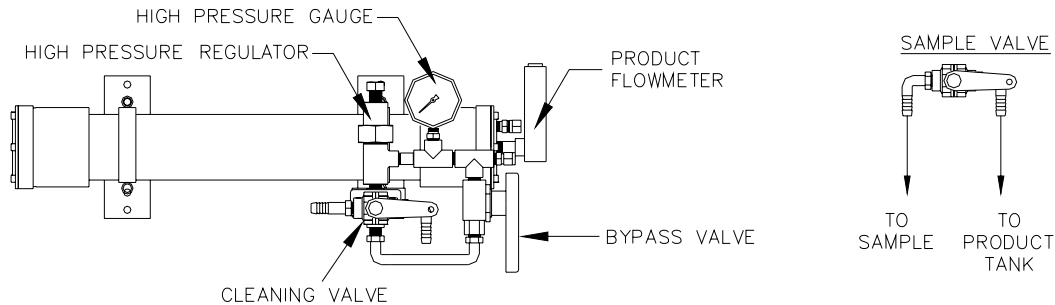

Figure 4.1: Little Wonder MODULAR Instrument Detail.
Step 6: Verify brine discharge is flowing overboard. If so, gradually turn the High Pressure Bypass Valve (Black Valve) to **NORMAL/RO** position. The High Pressure Regulator is factory set at 800psi. If High Pressure Gauge does not read 800 psi, slowly tighten or loosen in small increments the nut atop the High Pressure Regulator and adjust to a reading of 800psi. For location of High Pressure Regulator, refer to Figure 4.1.